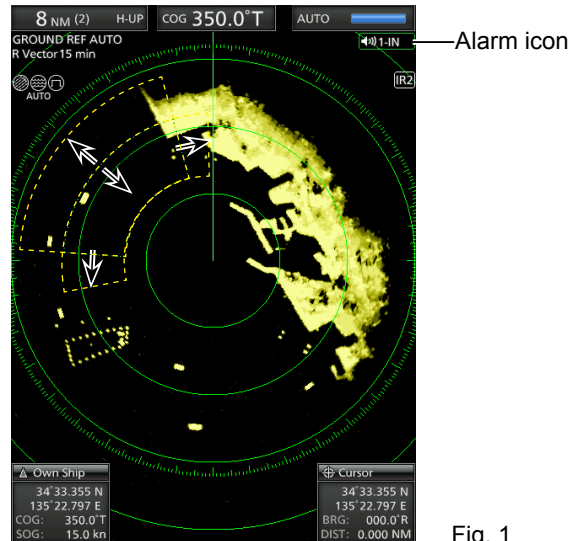
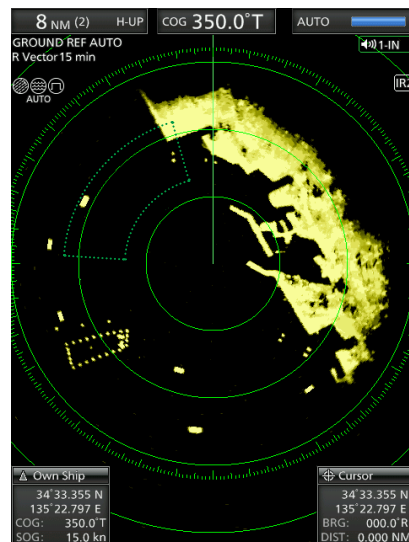

Fig. 1
Fig. 2
- The Alarm icon (🔊)) on the upper right of the screen and the preset alarm zone(s) is displayed. (Fig. 1)
- The starting zone is displayed on the screen. (Fig. 1)
- ① Push [CLEAR]/[取消] to stop the alarm.
- ① Push [ALM1/2]/[报警 1/2] to cancel the alarm signal and function.
- “🔊)” and the preset alarm zone is displayed. (Fig. 2)